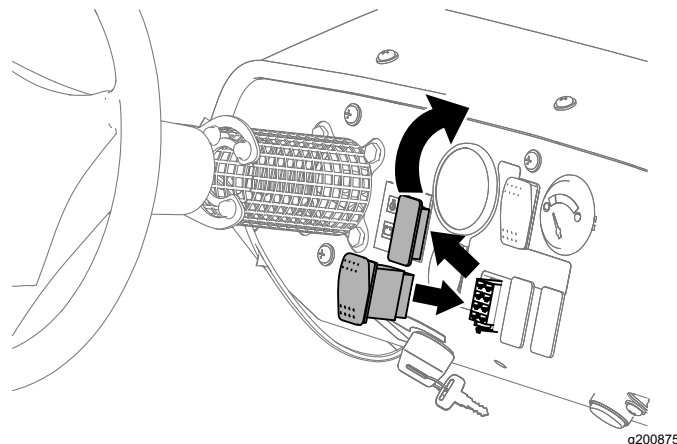

Figure 26
1. Remove the plug in the dash panel of the machine (Figure 26).
3. Assemble the switch into the dash panel and press in the switch until it snaps securely into the opening (Figure 26).